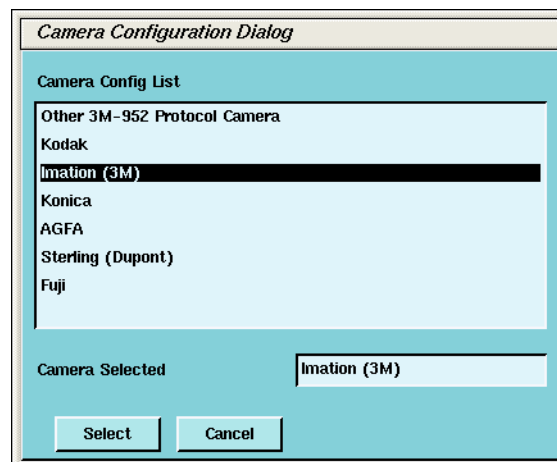

Figure 5-4 Camera Model Dialog (with DASM)
- 5.) To add a new laser camera, click DASM in the camera type dialog box. This brings up a list of available camera models. Select the appropriate model from the list and click SELECT (See Figure 5-4). Now you must configure it.